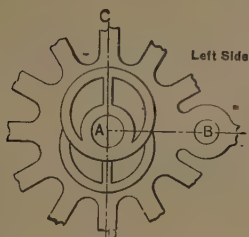

Fig. 200.
A. As seen in Fig. 200, where *A* is the axle, *B* the crank pin on the forward center, and *CD* the center line of eccentrics.